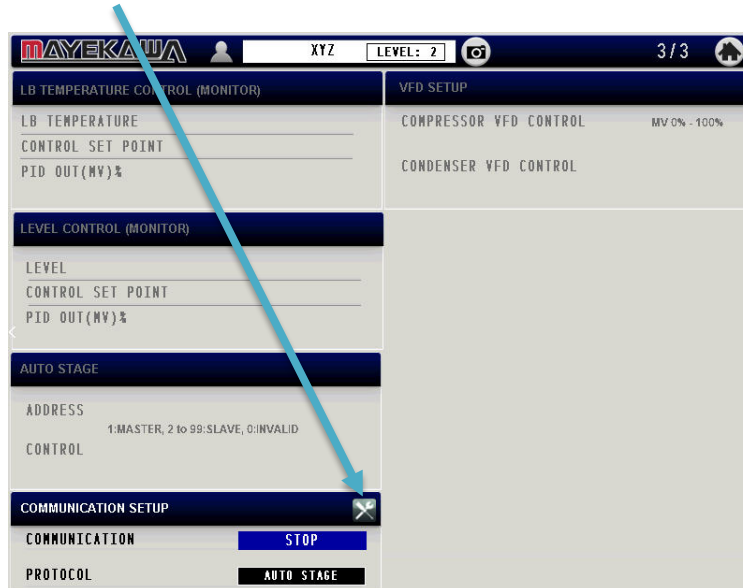

Figure 19: Communication Setup 01
3. Select “Communication Setup”, see Figure 19.